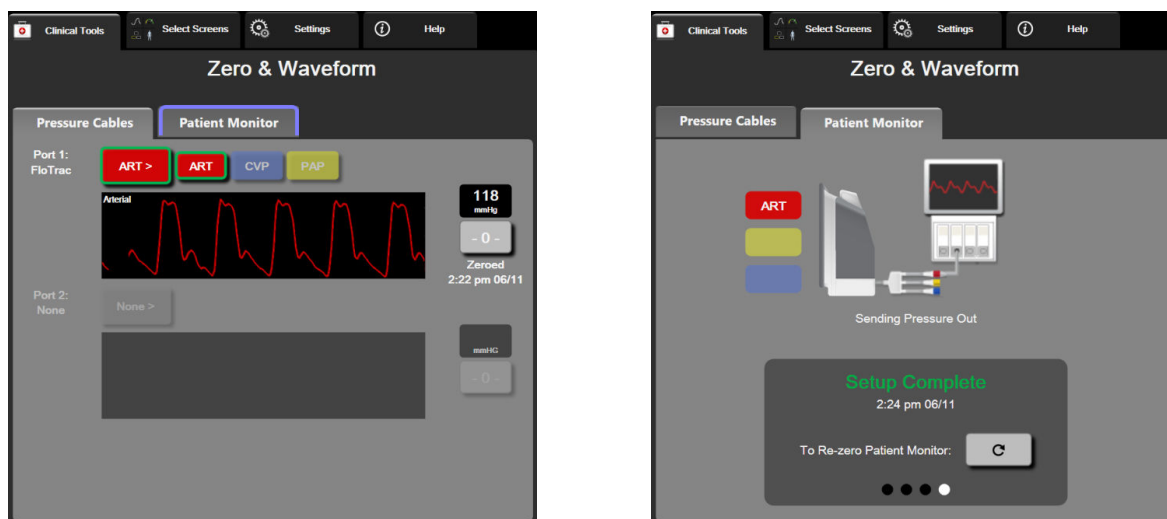

Figure 10-2: Zero & Waveform screens – Zero sensor and Pressure-Out
6. Touch the **Transmit Waveform** icon  to begin pressure signal output to the patient monitor. A "Setup Complete" message will be displayed when the live waveform is being transmitted to the connected patient monitor. See right screen shown in Figure 10-2 on page 183.